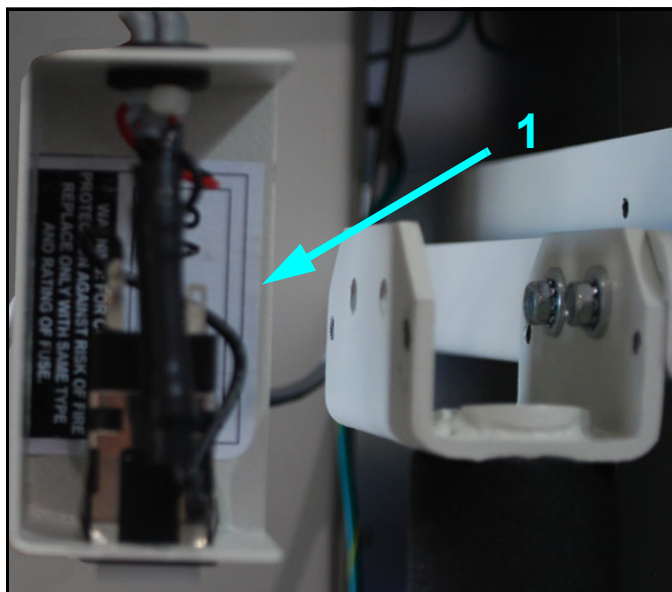

Figure 2-22. Brake Lock on Column
- 21** Attach the bucky switch cover to the brake handle assembly (1 in Figure 2-22).